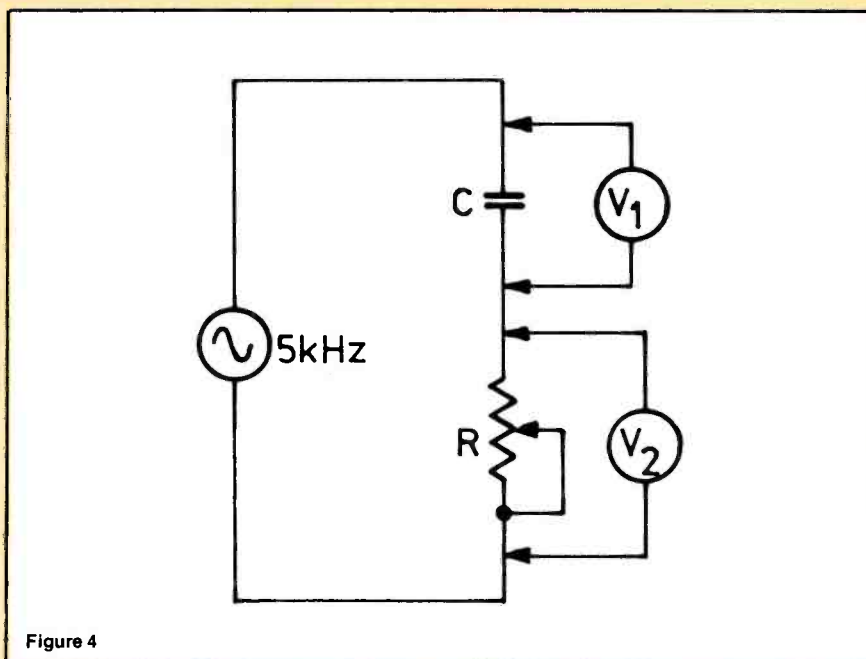

Figure 4
4. The test setup of Figure 4 is used for measuring the *capacity* of C. (In the CET test the term capacitance is sometimes used instead of capacity.) When $V_1 = V_2$,
5. A certain capacitor has a capacity equal to (C). It is charged by connecting a DC voltage (V) across its terminals. The amount of charge can be determined by the equation:
Figure 4. A block diagram of the Zenith KR9000 VCR head-drum servo is shown in part A and explained in the main text. These drawings illustrate the change when square waves are integrated into trapezoids. A rising or falling edge can be used as a sawtooth so a sampling pulse will find a different amplitude when a changing motor speed moves the trapezoid to the left or right.